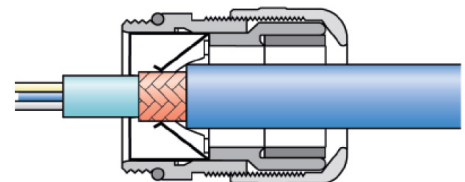

Figure 31: Cable entry
3. The cable entry should be done as shown in Figure 31.